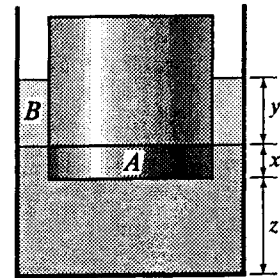

Figure X3.9.5
3.9.5 *An 8-in diameter solid cylinder 3 in high weighing 3.4 lb is immersed in liquid ( $\gamma = 52$  lb/ft3) contained in a tall, upright metal cylinder of 9 in diameter (Fig. X3.9.5). Before immersion, the liquid was 3 in deep (=  $x + z$ ). At what level will the solid cylinder float? Find the distance  $z$  between the bottoms of the two cylinders.*